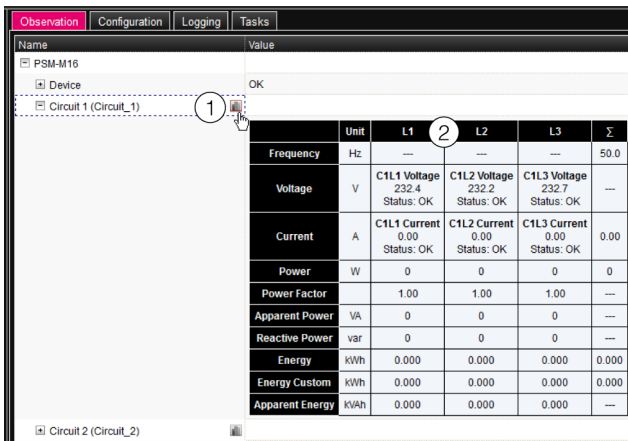

Fig. 8: Tabular representation:
The display changes to the tabular representation (fig. 8) and all actual measured values for infeed 1 can be viewed at a glance.
- Click the "graphic" symbol shown in various grey levels suffixed to the "Circuit 1" entry (fig. 8, item 1).
- Set the mouse cursor in the table on the column header for which you want to change the setting values (fig. 8, item 2).